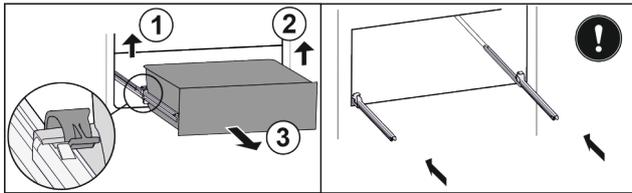

Fig. 29*
- ▶ Lift the left clamp and simultaneously pull the drawer on the left forwards Fig. 29 (1).*
- ▶ Lift the right clamp and simultaneously pull the drawer on the right forwards Fig. 29 (2).*
- ▶ Take out the drawer to the front Fig. 29 (3).*